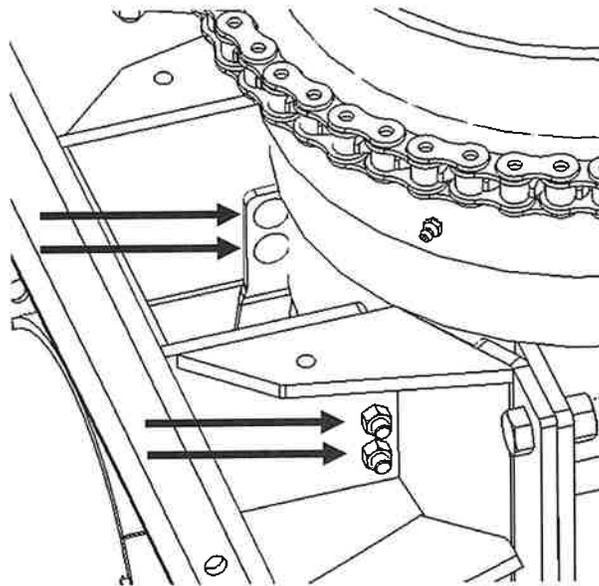

Figure 4
4. Using a 9/16" wrench or socket remove the 4 bolts and nuts shown in Figure 4 Below holding the hangar bearing in place. If the head of the bolt hits the vertical tube inside the access opening use the punch and hammer to drive the bolts out. This will allow the hangar bearing bracket to drop down.